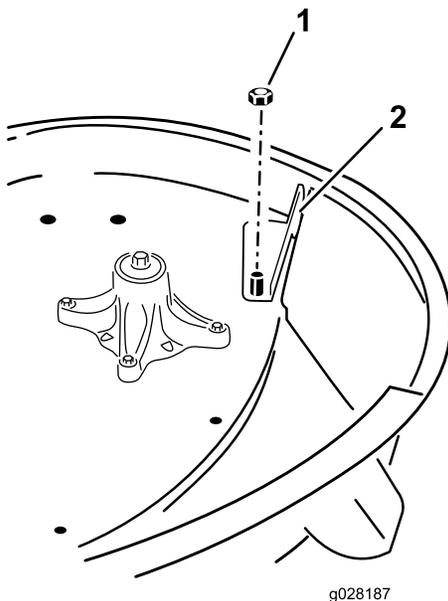

Figure 1
4. Remove the locknut (3/8 inch) securing the discharge chute retaining rod to the mower (Figure 1).
5. If the deck has a cutoff baffle installed, remove the cutoff baffle (Figure 1). Retain the parts for converting back to side discharge.